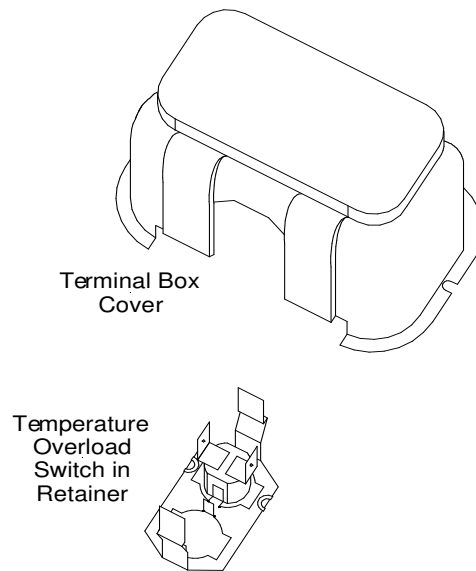

Figure 7 Compressor Shell High Temperature Switch
3. Lift off the cover of the terminal box on top of the compressor capsule. See Figure 7.